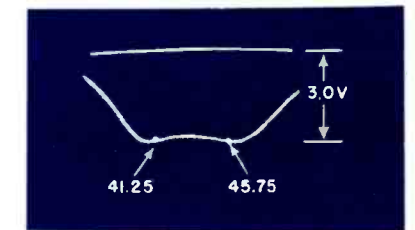

Fig. 11 4th IF Response
6. Adjust the top and bottom cores of the fourth IF transformer to obtain a response similar to Fig. 11. The 41.25 and 45.75 Mc markers should be adjusted for symmetry and should fall as close to the response curve humps as possible. If the correct response curve cannot be obtained, check the position of the two cores to see that they are not butted but are entering their respective windings from the opposite ends of the coils.